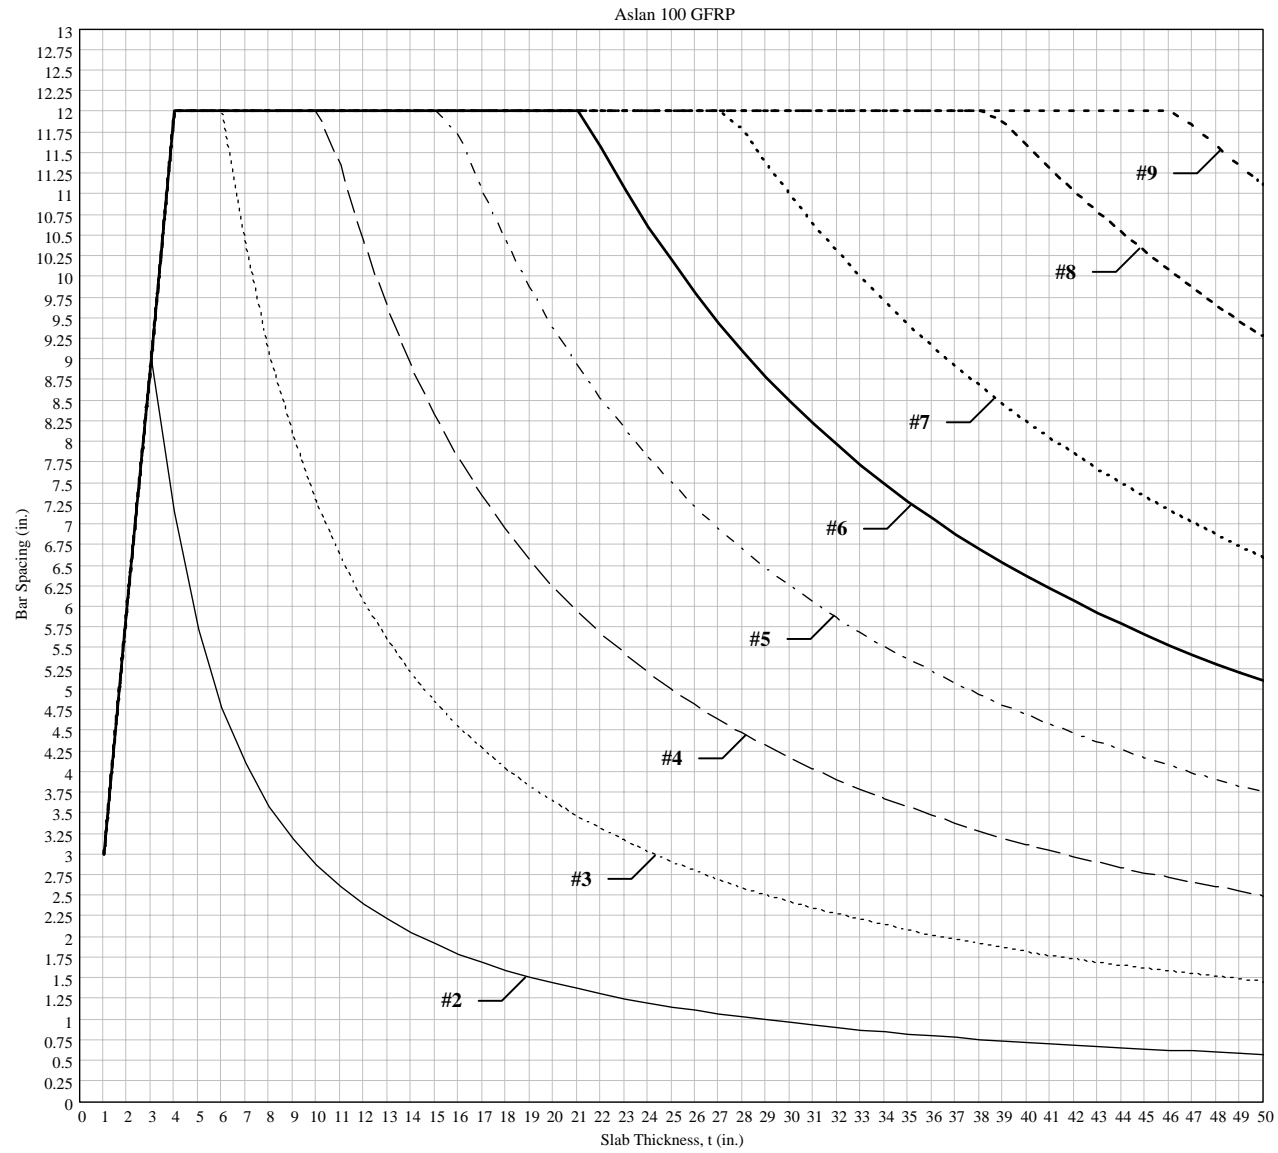

Figure 1 – Temperature and Shrinkage Reinforcement for Aslan 100 GFRP Bars
c) Figure 1 shows spacing of Aslan 100 GFRP bars used as temperature and shrinkage reinforcement as a function of both slab thickness and size of the adopted bar according to Eqs. (1) and (2). The figure is given for concrete thicknesses ranging from 5 to 50 in. Figure 1 is shown adopting the suggested limitation of 0.0036.
Table 1 summarizes the same results of Figure 1 for concrete thicknesses from 5 to 30 in. A linear interpolation for slabs thicknesses not represented in the table is allowed.